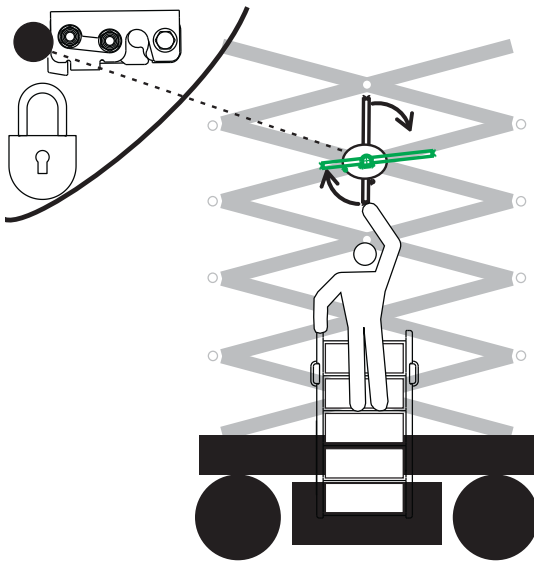

Figure 11 Position to release or retract the top maintenance support (only for model SJ9253 RT)
- a. Go up the MEWP ladder. Maintain three points of contact on the ladder at all times. Refer to Figure 11.